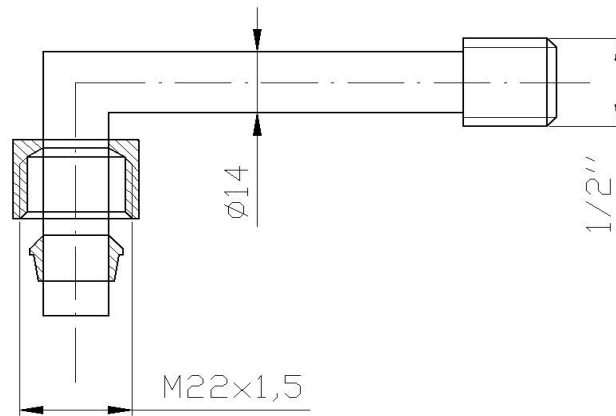

Fig. 4. Natural gas connector
- 2) natural gas E - with external thread G $\frac{1}{2}$ for natural gas E (G20) (fig. 4).